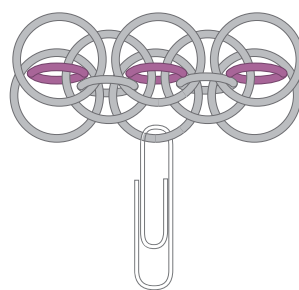

FIG. 3
4. Add a row of 3 small open (pink) jump rings to the center row of 2 large jump rings, following Step 6 of the traditional Dragonscale Weave instructions (**FIG. 3**).